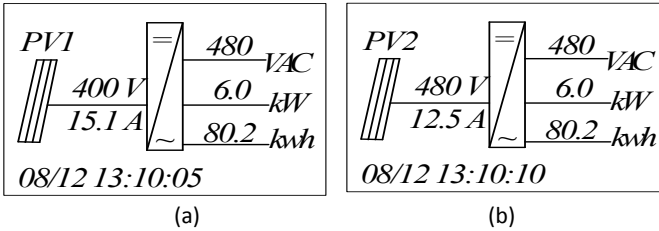

Figure 5.2 - Default Indication Interface for Normal Operation
- (2) Normal operation mode: Default indication interface for normal operation is shown in Figure 5.2 (a) and 5.2 (b). The switching time between (a) and (b) is 5 seconds.